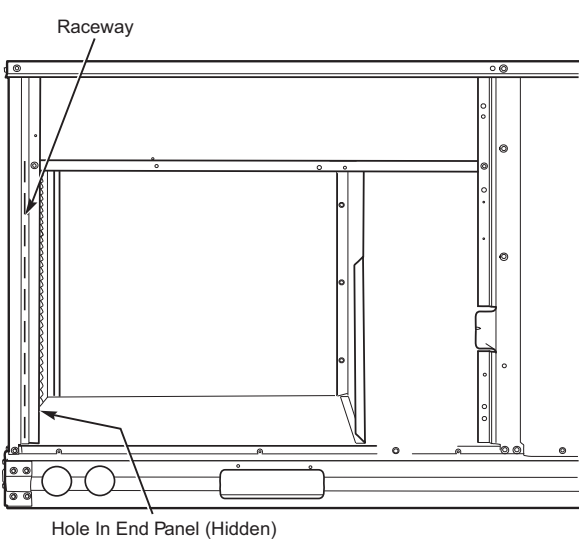

Fig. 37 — Field Control Wiring Raceway
Pass the thermostat control wires through the hole provided in the corner post; then feed the wires through the raceway built into the corner post to the control box. Pull the wires over to the terminal strip on the upper-left corner of the Controls Connection Board. See Fig. 37.
2. Feed wires through the raceway built into the corner post (see Fig. 37) to the 24v barrier located on the left side of the control box. The raceway provides the UL-required clearance between high-voltage and low-voltage wiring.
2. Feed wires through the raceway built into the corner post (see Fig. 37) to the 24-v barrier located on the left side of the control box. The raceway provides the UL-required clearance between high-voltage and low-voltage wiring.